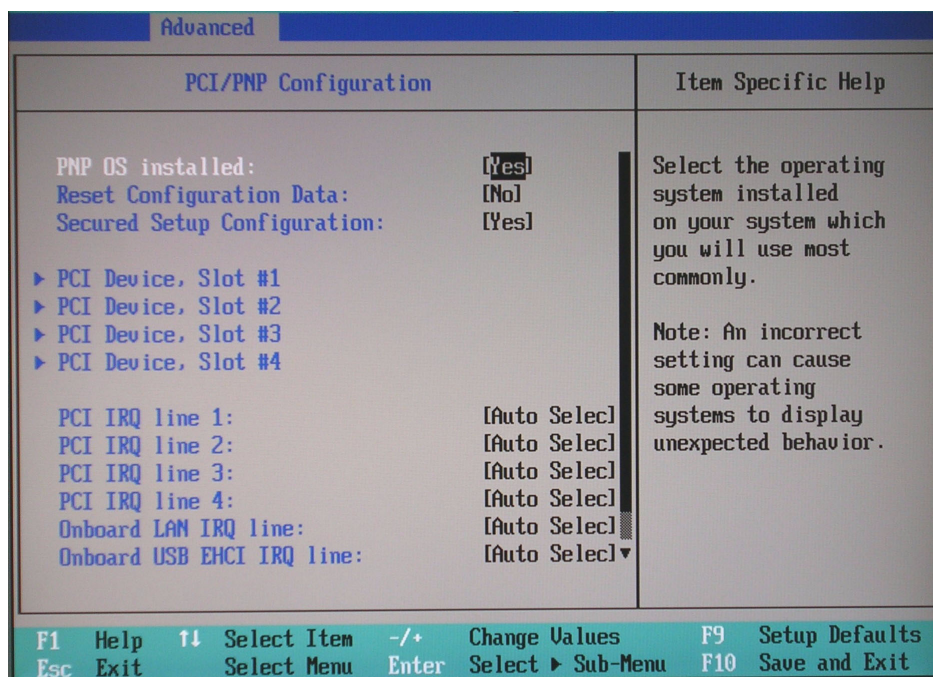

Figure 8-113 BIOS Advanced PCI/PNP Parameters
PCI/PNP Configuration	Figure 8-113 on page 8-115
- 6.) Set the parameters in the **PCI/PNP Configuration** screen as shown above in Figure 8-113.